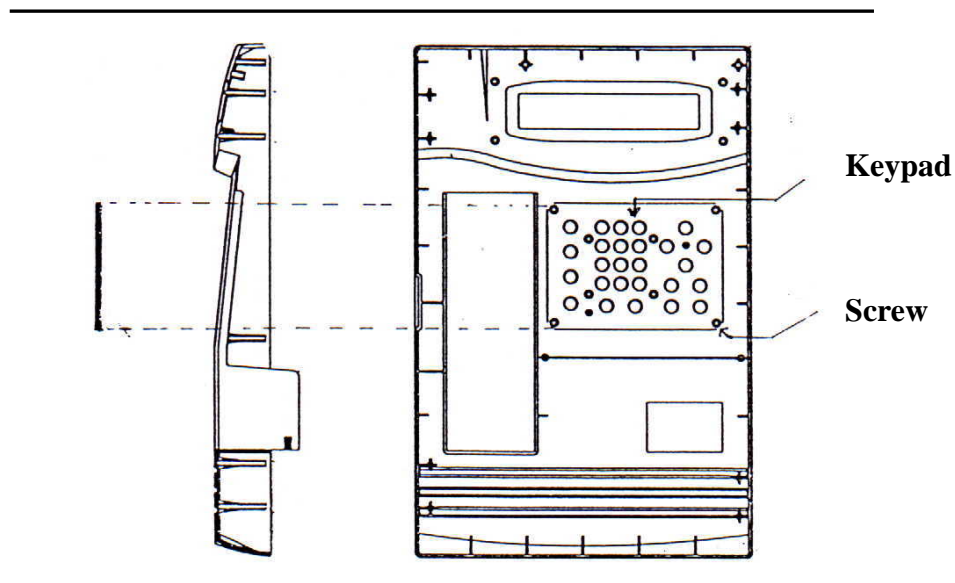

Figure 3-4. Keypad PCB Replacement.
4. Remove the eight screws on the keypad PCB (Figure 3-4).
3. Fasten the eight screws on the keypad PCB (Figure 3-4).